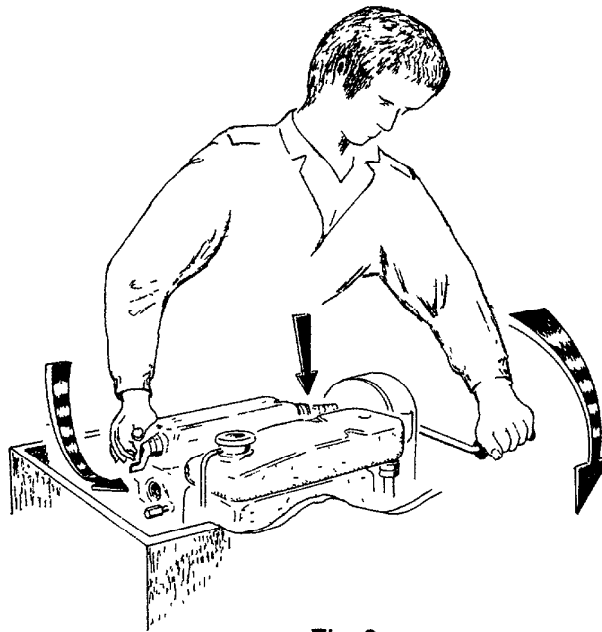

Fig. 3
3. Set governor control handle (2) to full speed position (down). Turn decompressor lever (3) downwards and set decompressor arm (4) so that it engages with the threads on the starting spindle.
5. Stand to starboard of the engine, not behind it. (fig. 3.) The starting handle (5) is operated using the left hand, (except where there is a front starting handle). Turn the engine over rapidly until the decompressor closes and the engine starts. Remove starting handle.
7. Check oil pressure (6) and cooling water temperature.